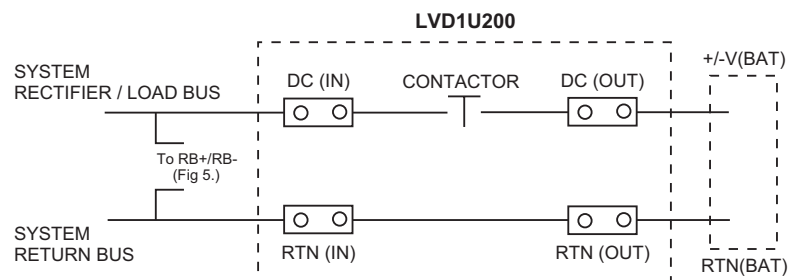

Figure 5a. Connection Schematic – Battery RTN connected to RTN(OUT)
- 11.2** Figure 5a below shows battery disconnect operation using the RTN bus as a connection path from the RTN(BAT) to systems return.